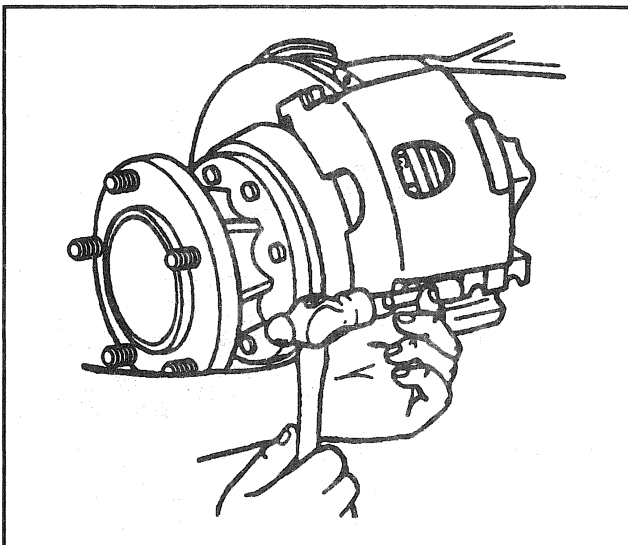

Figure 18—Removing the Caliper Support Key
8. Bolt (2).
9. Support key (3) and spring (4).
- Use a brass punch and a hammer to drive the support key out (Figure 18).
10. Caliper assembly (1).